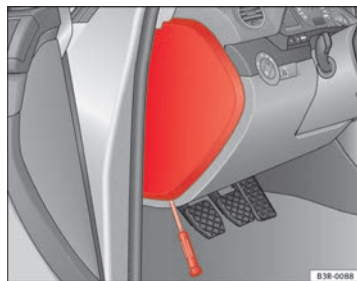

Fig. 186 Left side of dash panel: Fuse box cover
- Remove the fuse cover using a screwdriver ⇒ fig. 186.